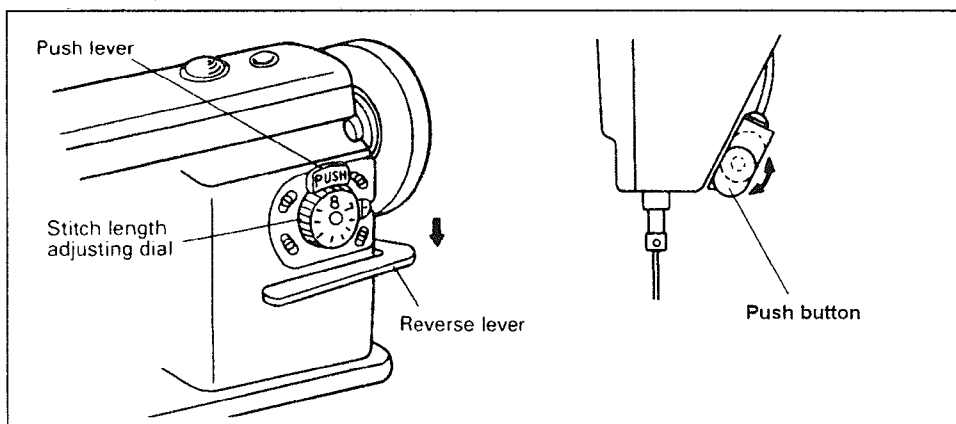

Fig.20
20、 Adjustment of stitch length and reverse sewing (Fig.20):